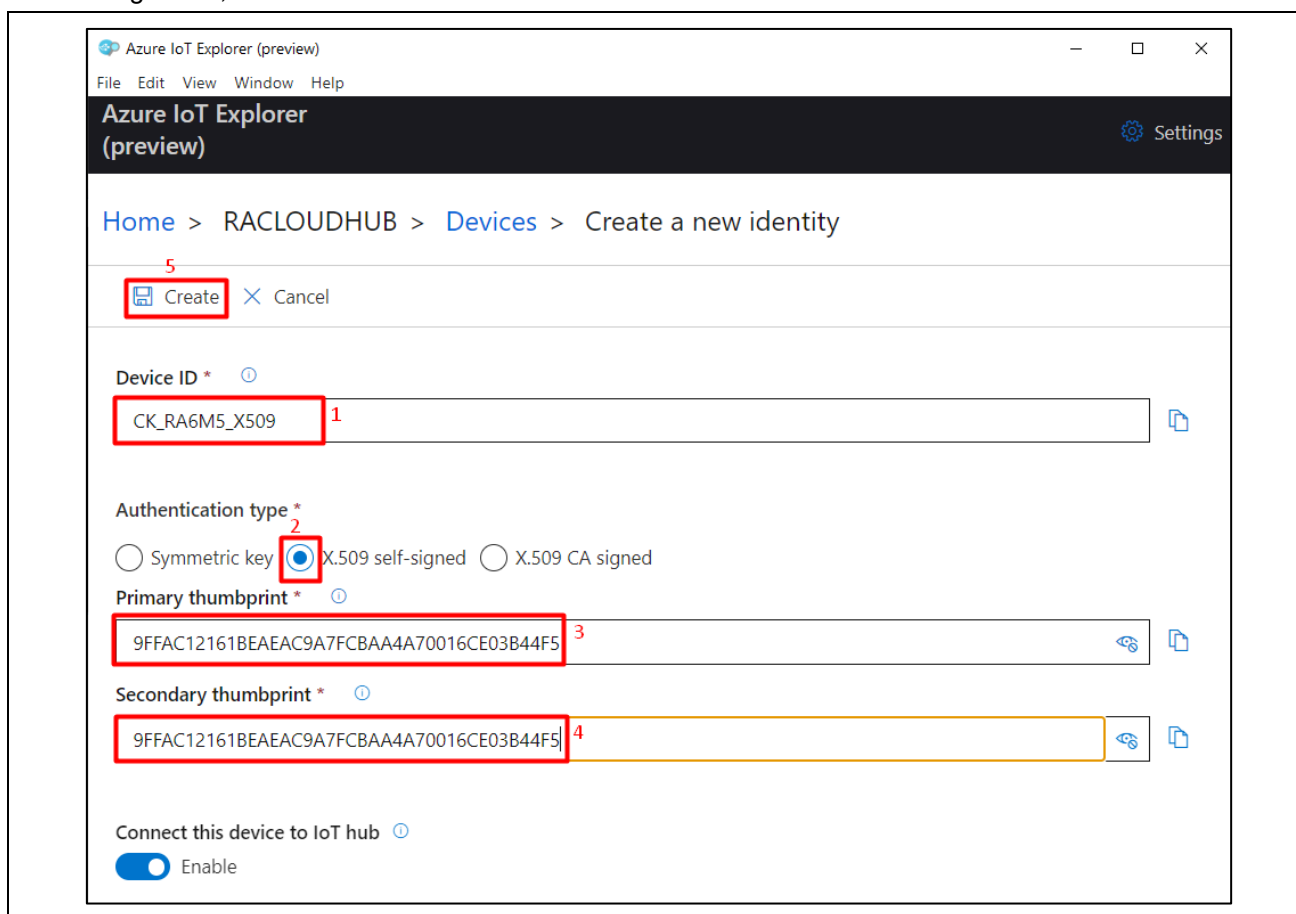

Figure 31. Naming, Authentication type, and Thumbprints
2. In this stage, you have to enter the Device ID, Authentication type, Primary thumbprint, Secondary thumbprint, and then click on **Create**. Use the fingerprint generated in Figure 23 in the section 3.5. Certificate Creation Process, for the primary and secondary thumbprints. Follow steps 1-5 numbered in the Figure 31, to create the device.